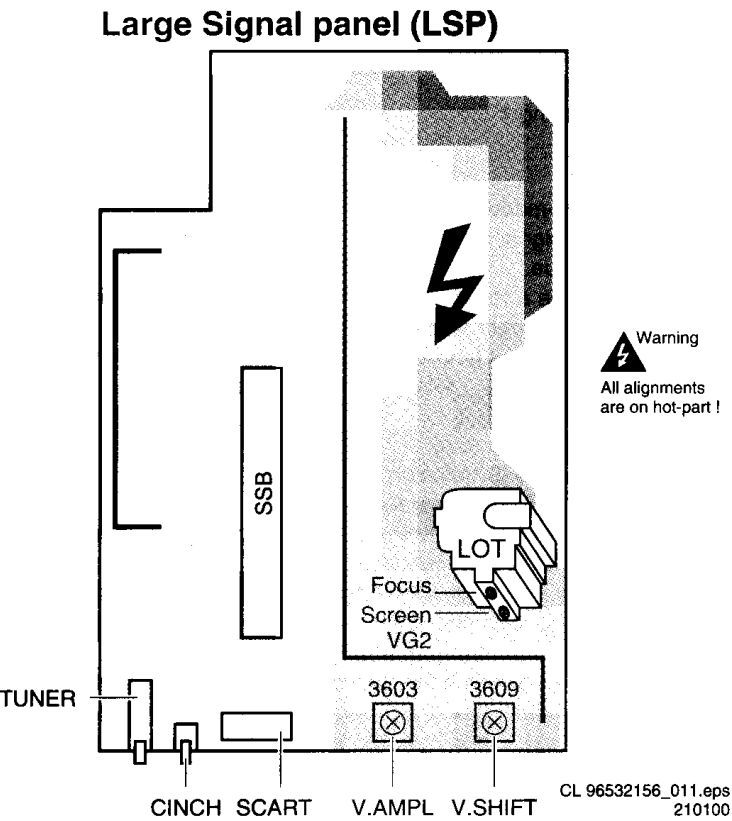

Figure 8-1
2. Adjust the Focus potentiometer (upper potmeter, see figure 8-1) for an overall optimum focusing of the picture.
4. Adjust the Vg2 potentiometer (lower potmeter, see figure 8-1) so that the measuring pulse with the highest noted level is on 160 ± 3 V_{DC} level.
2. Align the vertical amplitude with R3603 (see Fig. 8-1) so that the complete test pattern is visible.
2. Align the vertical centering with R3609 (see Fig. 8-1) so that the test pattern is located vertically in the middle.